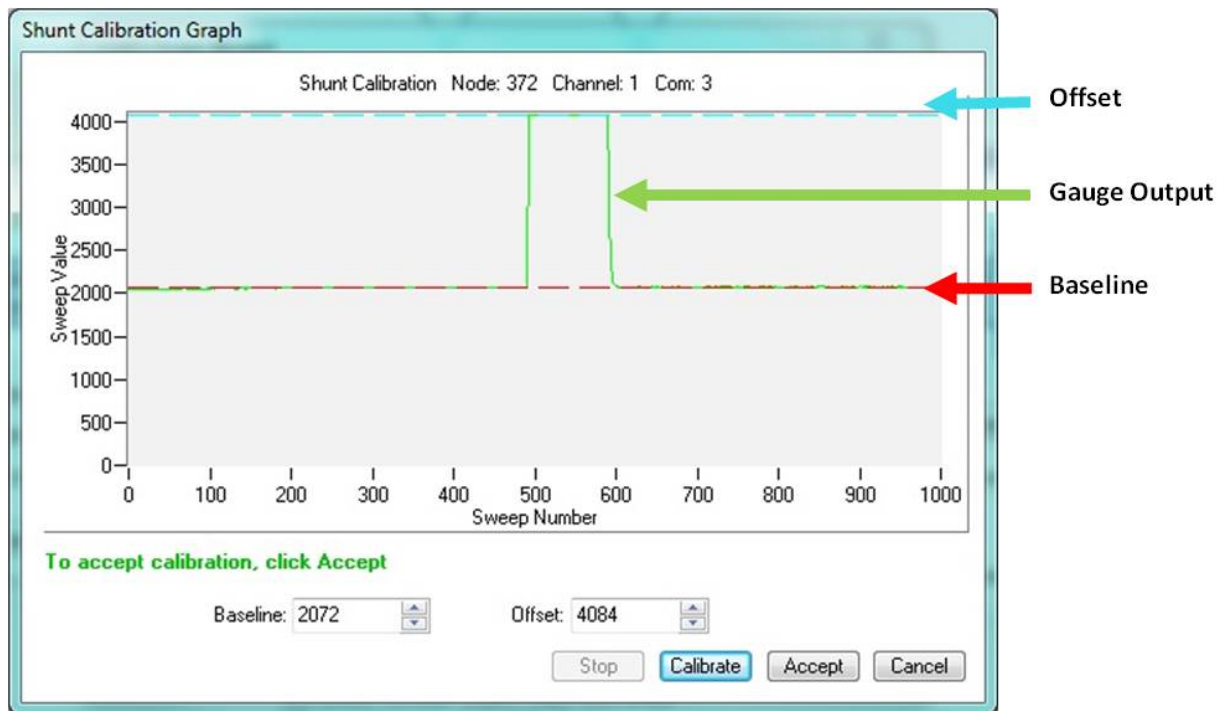

Figure 51 - Strain Gauge Calibration
11. Verify the calibration looks as shown in Figure 51 - Strain Gauge Calibration. The green line represents the output of the strain gauge. With no load applied it should sit near the Auto Balance baseline value, represented by the red dashed line. During calibration, a shunt resistance (selected on the Parameters page) is applied across the strain bridge, shown by the square pulse on the output. The Offset value, shown with the dashed blue line, is the average output value of the pulse and should sit across the top of the pulse. If the gauge has not had time to equilibrate before sampling, or if varying environmental factors exist, spikes in the gauge output may occur and affect the Baseline and Offset values. If this occurs, the Offset and Baseline values can be adjusted to clip the spikes in the output values. Adjust them as needed, and select Accept when completed.